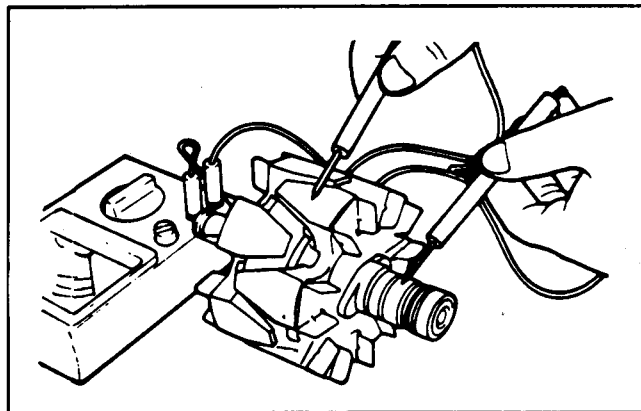

Figure 41
11. Check for continuity between a slip ring and shaft (core) (Fig. 41). Replace the field coil if there is continuity.